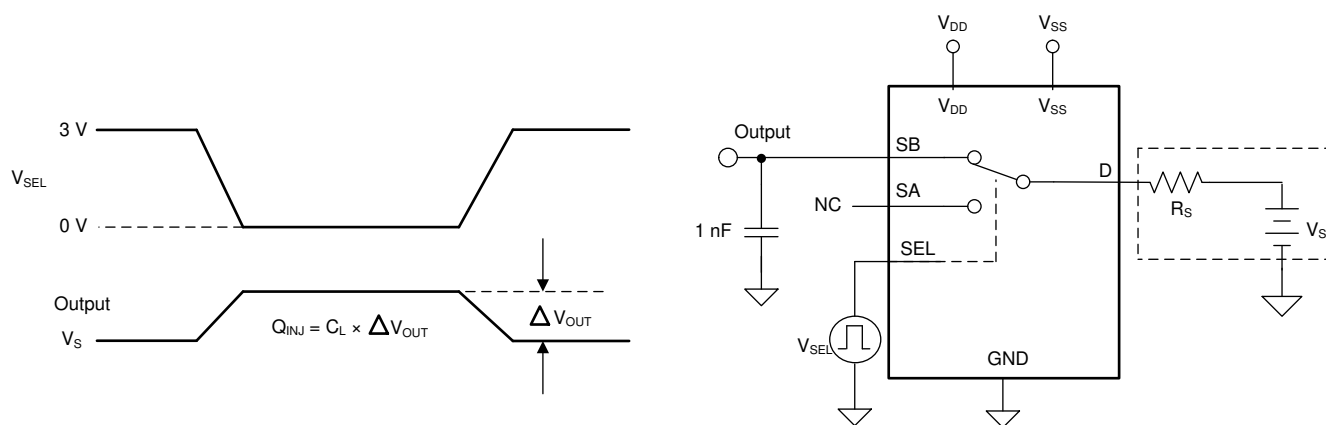

Figure 7-6. Charge-Injection Measurement Setup
The TMUX6136 have a simple transmission-gate topology. Any mismatch in capacitance between the NMOS and PMOS transistors results in a charge injected into the drain or source during the falling or rising edge of the gate signal. The amount of charge injected into the source of the device is known as charge injection, and is denoted by the symbol Q_{INJ} . Figure 7-6 shows the setup used to measure charge injection from drain (D) to source (Sx).